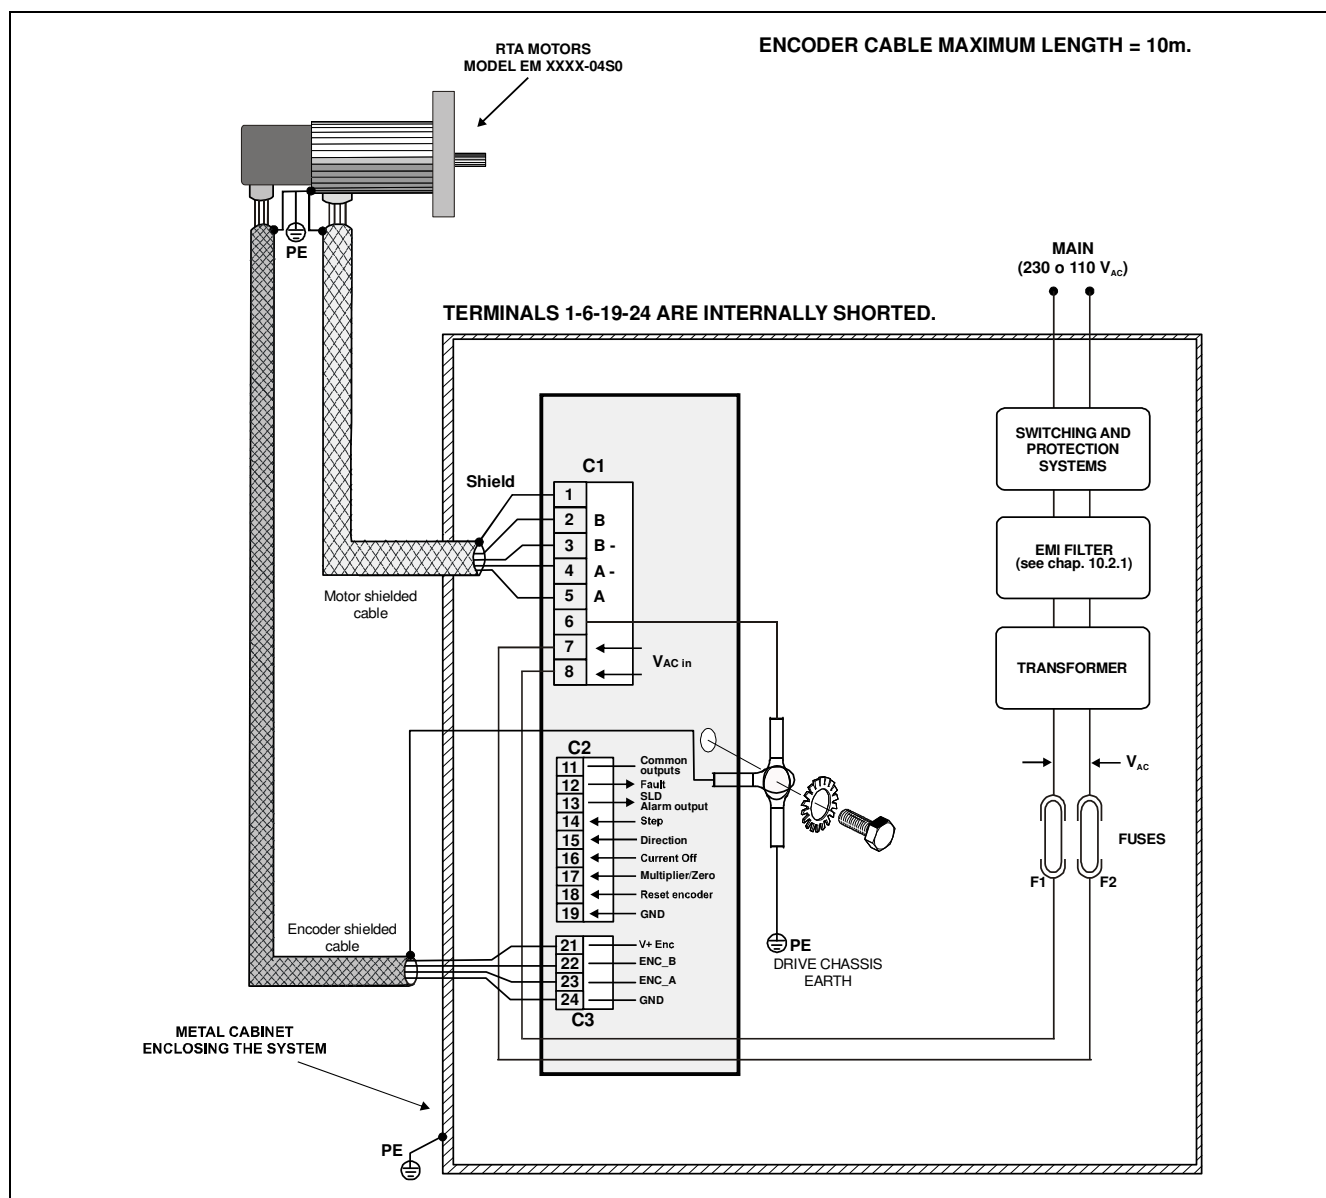

Fig. 6 – Drive external connections scheme.
- 7.3- The use of one secondary winding for more drives (max 3 drives) is allowed only if the total power required by the drives is less than 600VA. In any case, two fuses (F1 and F2 showed in Figure 6) for each drive must be used.
- 7.4- **Branch circuit protection fuses F1 and F2 (see Fig. 6) must be 10 Amp, at least 250 Volt with  $I^2t$  between 150 A2s and 400 A2s (for example Cooper Bussman model KTK-R-10 or Littelfuse 215010.P).**
- Connect earth line to motor chassis. To reduce the radio-frequency emissions, the mechanical connection of motor to machine chassis (by means of mounting flanges and screws), is typically simple and effective solution. In this case, both screws and chassis must be of conductor material and the chassis must be connected to earth. See Fig. 6.
- Use shielded cables with shield connected to terminal PE (see Fig. 6).